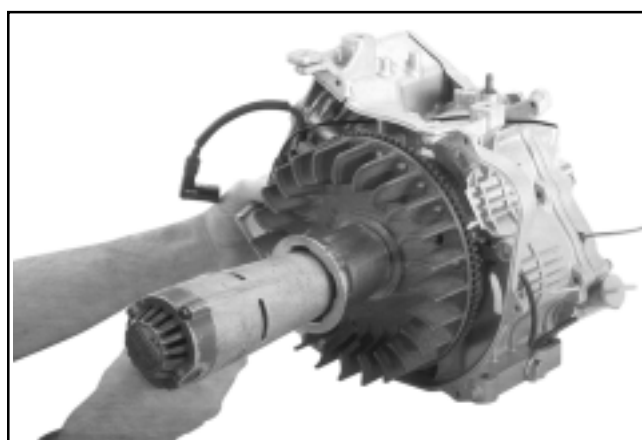

Figure 9-46. Removing Flywheel Nut using an Impact Wrench.
1. Remove the flywheel retaining nut, washer, and drive cup. See Figures 9-46 and 9-47.